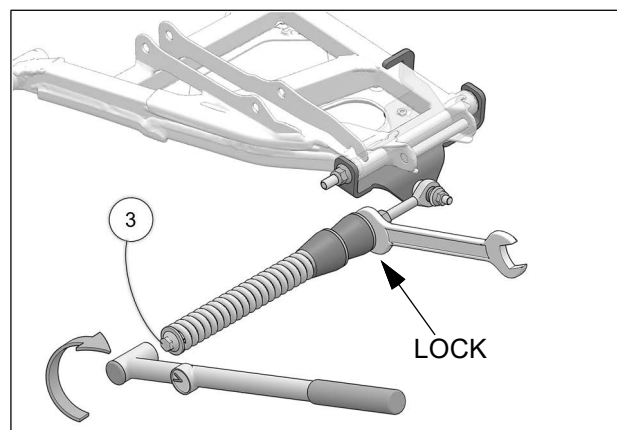

Fig. 10
10. Verify that spring assembly bolt (3) is tightened to the recommended torque specification: 75 Nm [55 lb•ft]. Make sure to lock in position, the large nut in front of the rubber cone dampers. Refer to Fig. 10